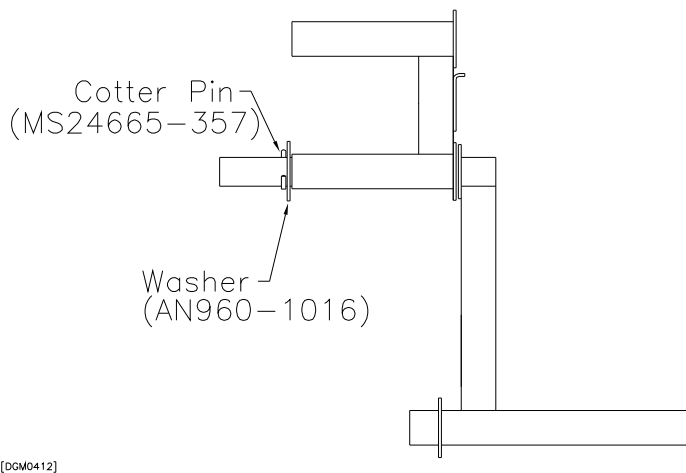

Figure 20.1.3
3) Slide a washer (M18-L) onto the Rudder Pedal against the Brake Pedal. Drill a #30 hole through the rudder pedal and install a cotter pin (MS24665-357). Figure 20.1.3.